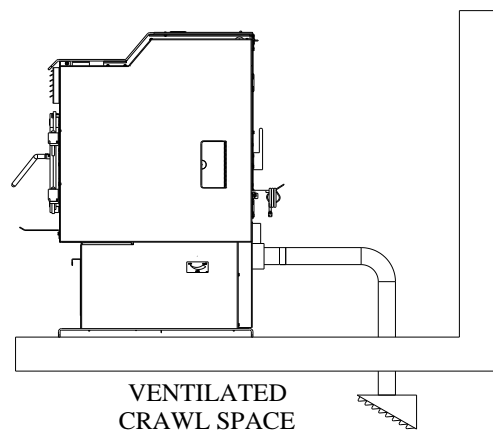

Figure 6
- A hole in the floor near stove rear terminating only in a ventilated crawl space.(Figure 6)